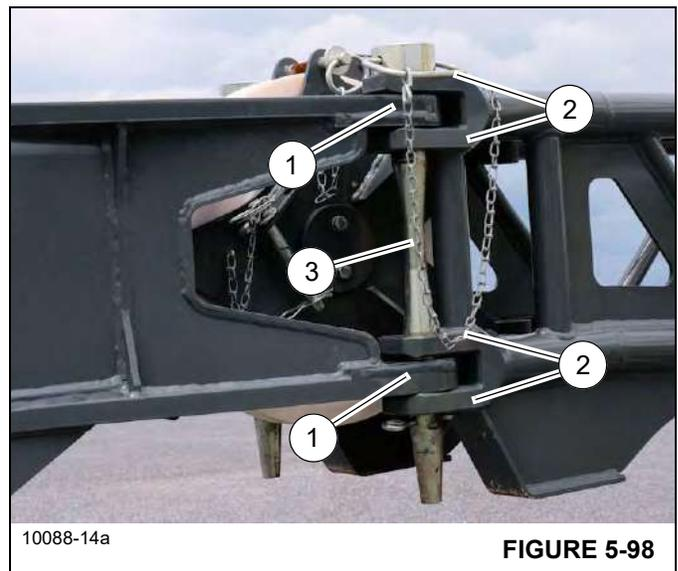

FIGURE 5-98
6. Slightly raise and/or lower the boom to help control the boom extension. Using the tag line, swing the fly section around and engage the fly section attachment fittings (1), (Figure 5-98) with the base section anchor fittings (2).
7. Remove the pin (3), (Figure 5-98) from its holder on the boom extension and insert it into the left side fittings (1, 2). Secure the pin with the retaining clip.